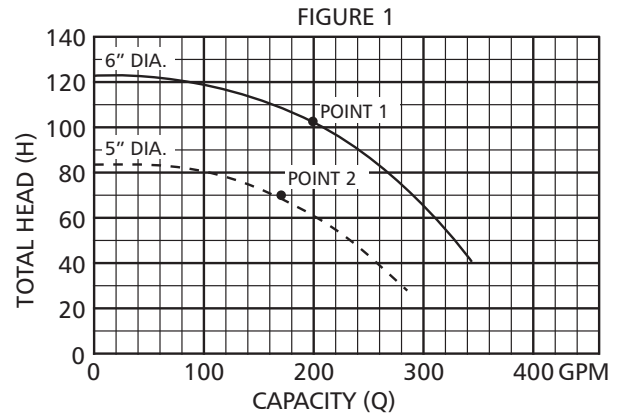

FIGURE 1
To illustrate the use of these laws, let's look at a particular point (1) on a pump curve (figure 1). The diameter of the impeller for this curve is 6 inches. We will determine by the use of the Affinity Laws what happens to this point if we trim the impeller to 5 inches.
The 5 inch diameter Head/Capacity performance point can be plotted on the graph (figure 1; point 2). By taking additional Head/Capacity points on the 6" diameter curve line and using this procedure, a new Head/Capacity curve line can be produced for the 5 inch diameter impeller.